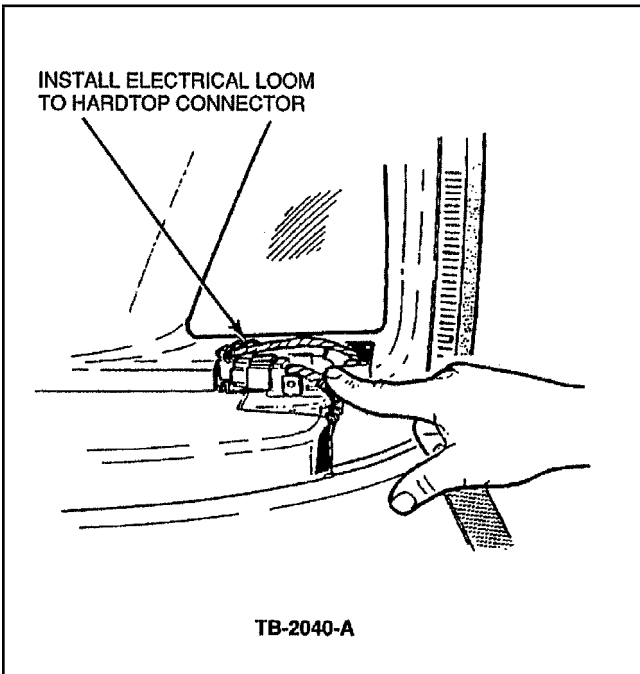

Figure 11 - Article 91-20-2
22. Connect the electrical lead to the hardtop connector. Feed the excess wire down into the storage compartment, Figure 11.